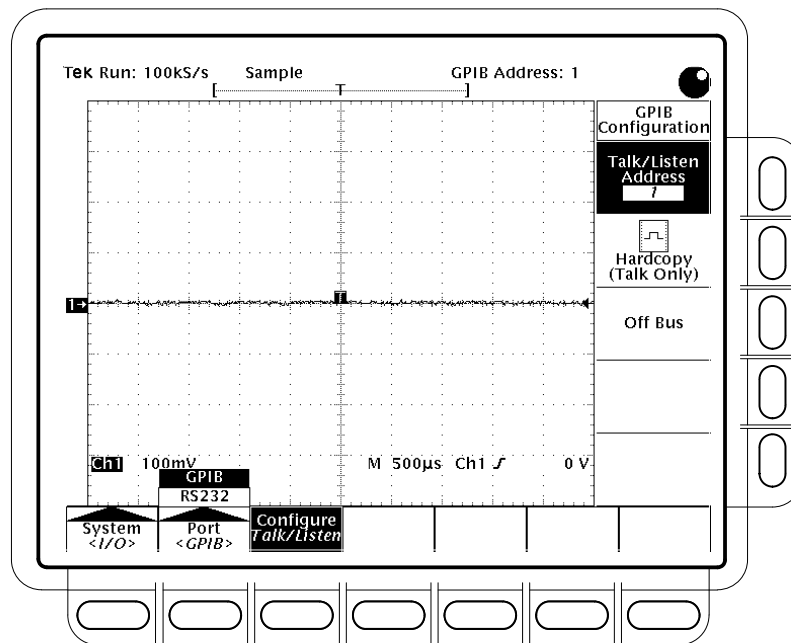

Figure 1–9: Selecting the GPIB Address in the GPIB Configuration Side Menu
3. Press the **Port** button in the main menu until it highlights the **GPIB** selection in the pop-up menu. See Figure 1–9.
4. Press the **Configure** button in the main menu to display the GPIB Configuration side menu. See Figure 1–9.